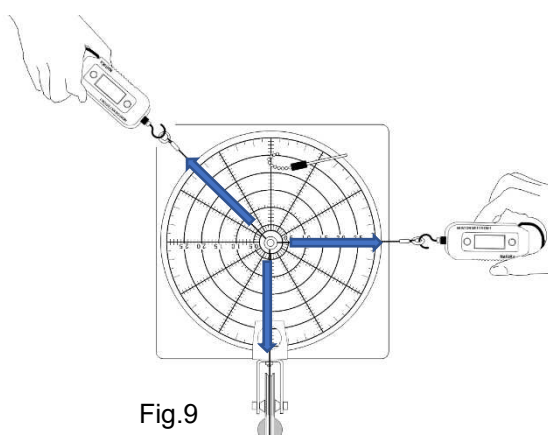

Fig.9
5. Add another Newton Meter (NM-2) and hook it to the ring of remaining string. Reset DILP not fully inserted to unfix the BRSB. Keep the NM-1 still and try to find the appropriate angle and pulling force NM-2 indicates to bring DILP upright again (Fig.9).